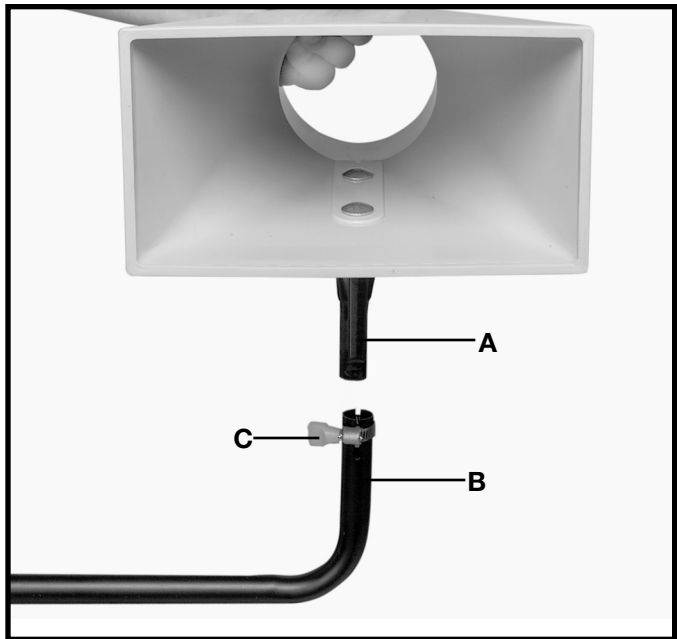

Fig. 14
- Place intake funnel assembly (A), onto lower support tube (B) Fig. 14, and secure with tube clamp (C).